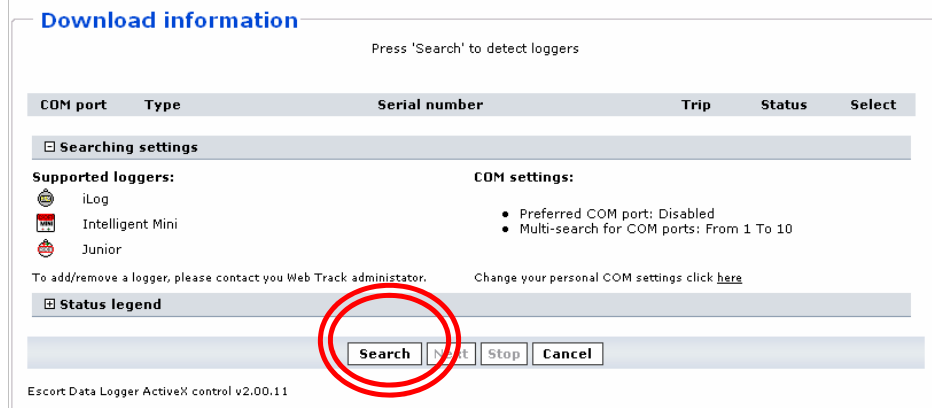

Figure 7: Search for Connected Loggers
- Select **Search** for EWT to find the Data Logger connected to your COM port. See Figure 7 below.